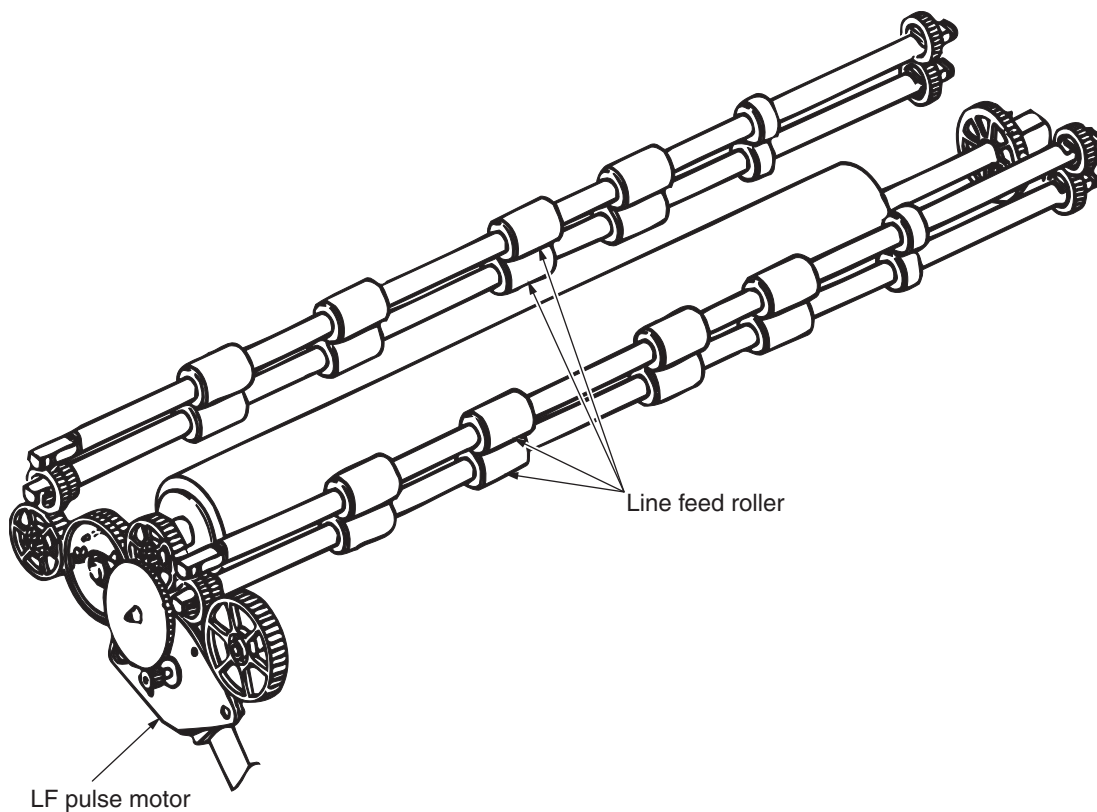

Figure 2-7
- (1) Cut-sheet feed operation (See Figure 2-7.)